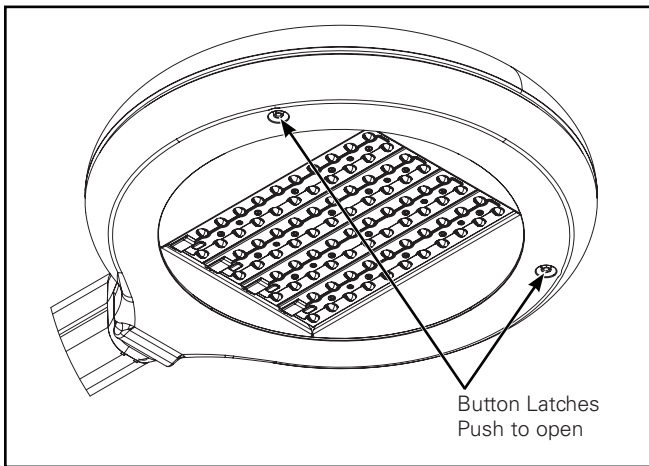

Figure 1.
### Attaching Arm to Pole (Figure 1 – 2.)
1. Open door and press both button latches at the same time and open door. (Figure 1.)